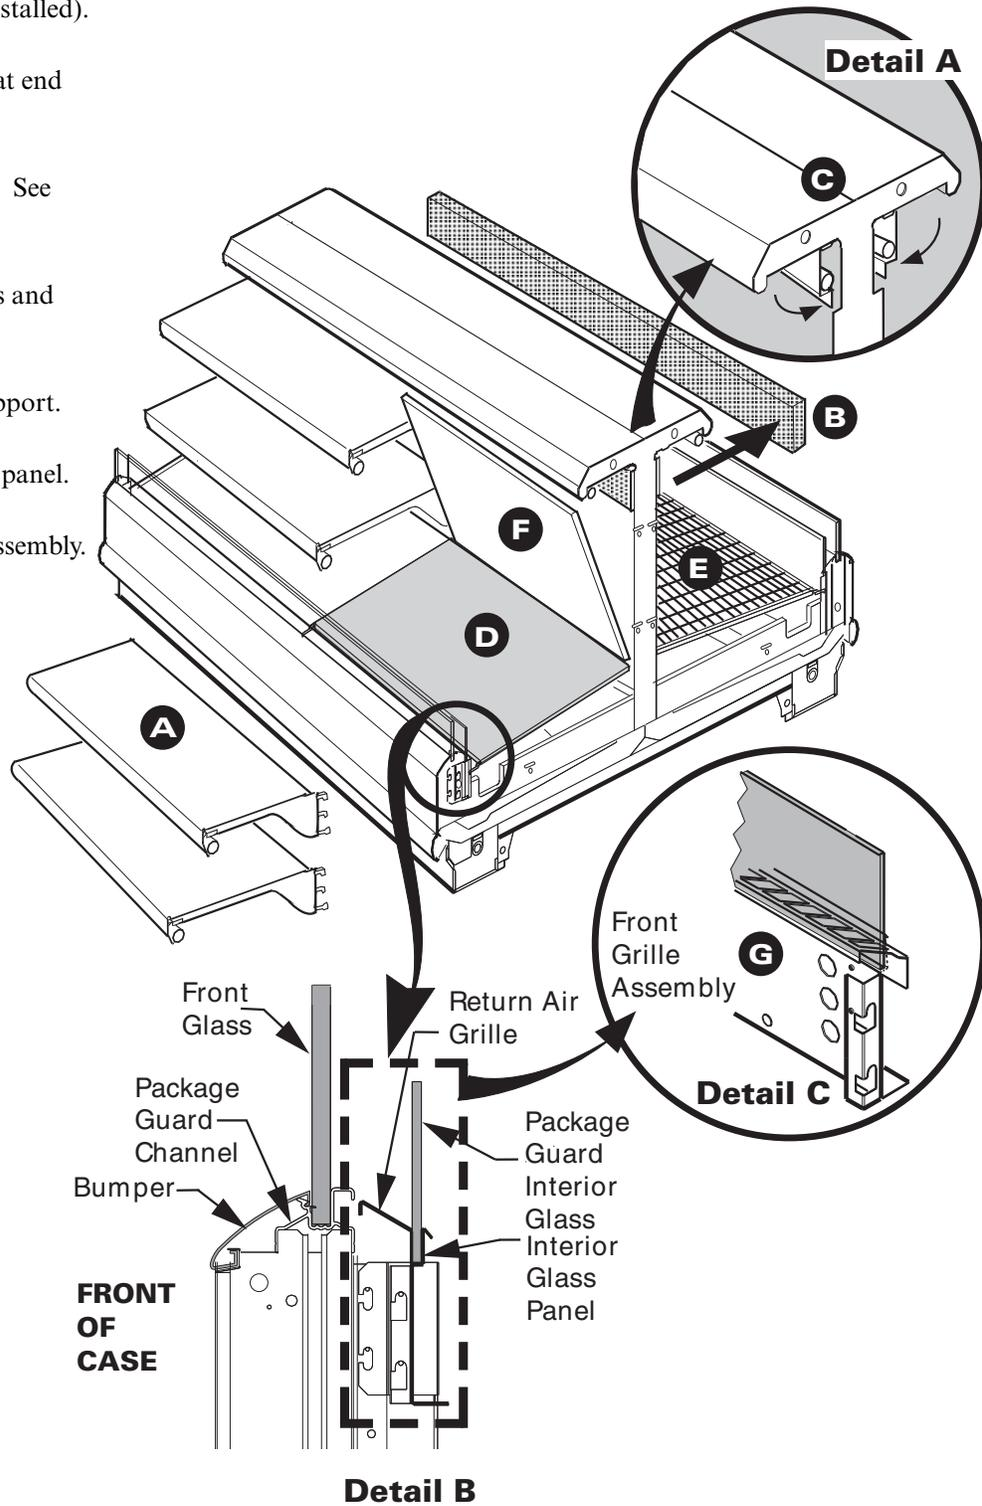

**Figure 1. Install Gaskets**
- Apply **Gaskets – 1 and 2** as shown in Figure 1.